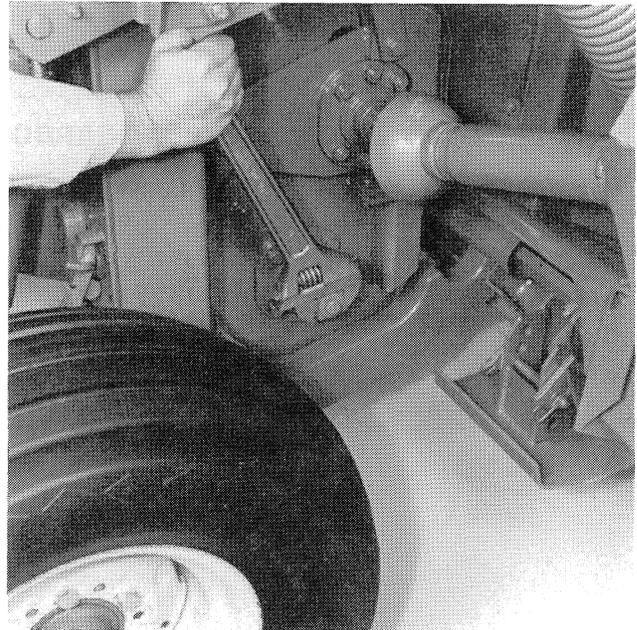

FIGURE 2
5. Block the machine by placing a wrench on the lower roll hub as shown in Figure 2. **NOTE: Turn the machine by hand until the wrench contacts the main frame.**